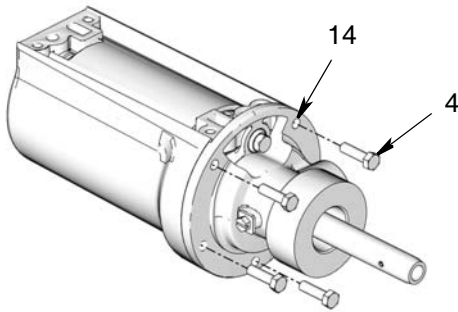

Fig. 16
- To ensure there is a proper seal between the air valve and manifold, loosen all 5 screws (Fig. 16) approximately 1/8 to 1/4 turn. These screws will be torqued in Step 12, **AFTER** the air valve (40) is installed.